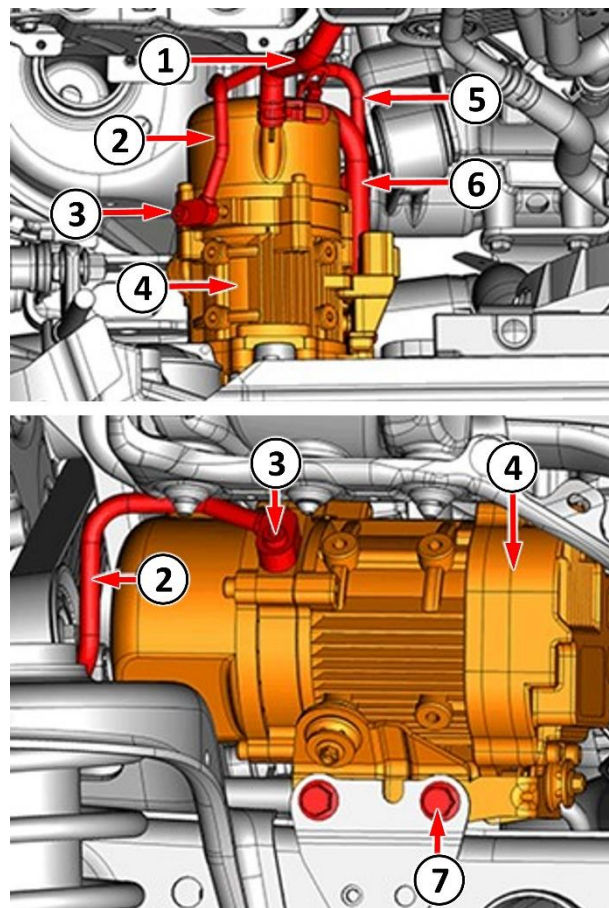

Figure A15 – EHPS Pump
44. Obtain the **NEW** EHPS pump and position it in the vehicle (Figure A15).
45. Connect the supply hose to the EHPS pump and secure with the hose clamp (Figure A15).
46. Connect the return hose to the EHPS pump and secure with the hose clamp (Figure A15).
47. Install the EHPS pump frame bracket bolts and tighten to 29 N·m (21 Ft. Lbs.) (Figure A15).
48. Install the EHPS pressure pipe to the EHPS pump then install the EHPS pump pressure pipe bolt (Figure A15). Tighten the pressure pipe bolt to: